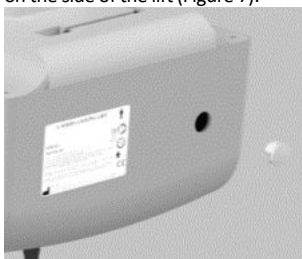

Figure 7: Circular Clip
2. Locate the small circular clip on the side of the lift (Figure 7).